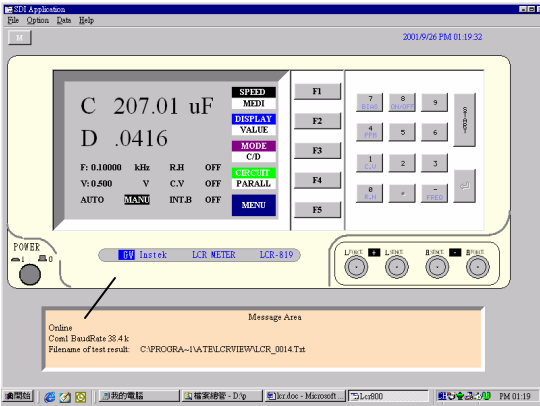

Figure 9-2
- 4) Check the contents of the Message area under the LCR-VIEW to make sure the Online Procedure has been well done. If not, select the setting items above the LCR-VIEW to change the Com port and make connection again until it is online. Please refer to Figure 9-2, 9-3, 94.